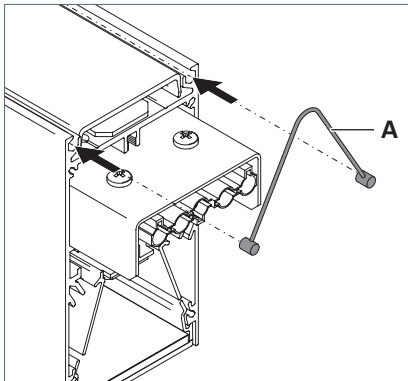

Fig. 11: Hanging wire rope into luminaire.
- ▶ Insert the ends of the wire rope **A** into the guides on the top of the luminaire, see Fig. 11.